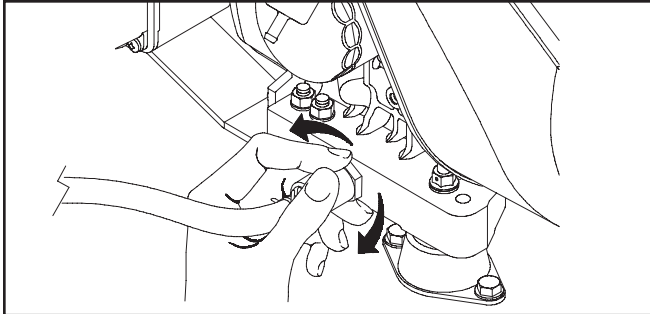

Figure 5 — Oil Drain Fitting
- Push in and rotate the oil drain fitting 1/4 turn counterclockwise. Slowly pull outward until oil starts draining (Figure 5). Do Not pull the oil drain fitting off the engine.